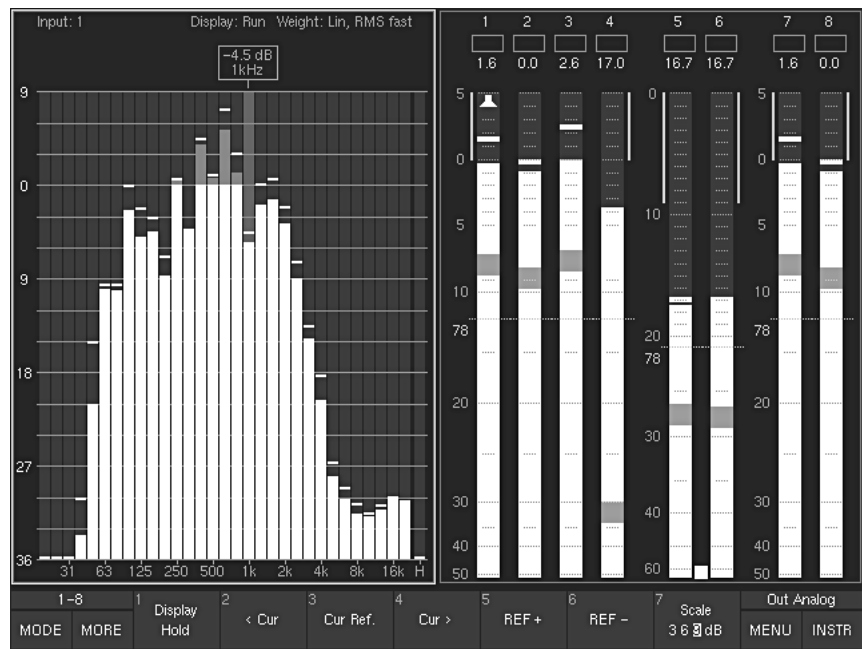

Fig. 5-24: First Toolbar function level of the RTA instruments in Multi-Channel mode. Select MORE to display additional functions (layer 2)
In Multi-Channel modes the RTA inputs always follow the selected Listening Group which is marked with green loudspeaker symbols (see Fig. 5-24) in the Peak Program Meter.
(First layer, button/key 1, see Fig. 5-24)
(First layer, button/key 2 and button/key 4, see Fig. 5-24)
(First layer, button/key 3, see Fig. 5-24)
(First layer, button/key 5 and button/key 6, see Fig. 5-24)
(First layer, button/key 7, see Fig. 5-24)